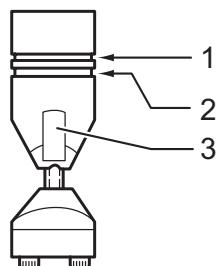

Fig.2
► Fig.2: 1. Gauge for cutting stainless: 1.2 mm (3/64")